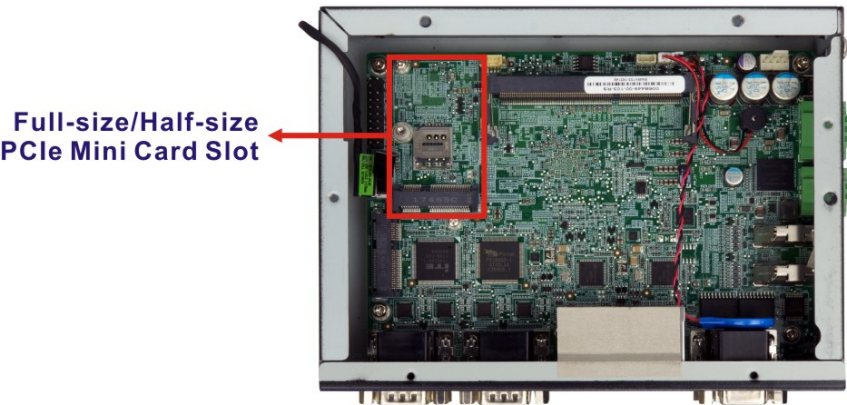

Figure 3-5: PCIe Mini Slot Location
Step 2: Locate the PCIe Mini slot on the motherboard (Figure 3-5).